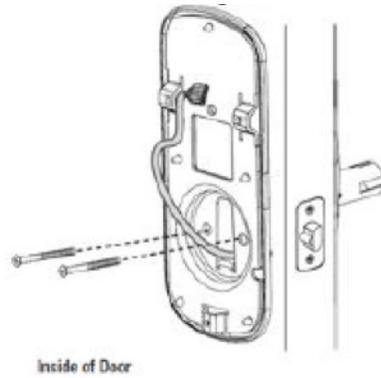

Figure 3
- Secure both assemblies using (2) M6 x 59.5mm pan head machine screws (Fig. 3), making sure that outside of the lock is vertically aligned. Do not over tighten.